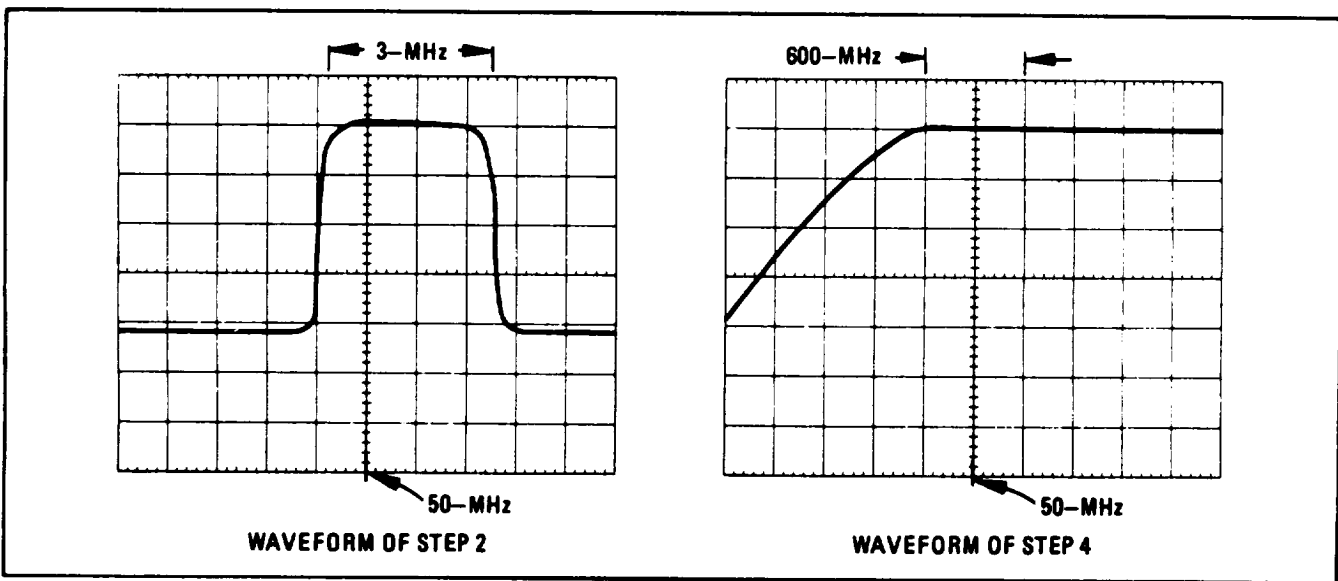

Figure 5-13. 50 MHz Bandpass Display for 10 MHz and 3 MHz Sweeps
POSITION	(see Figure 5-13)
2. Adjust Generator/Sweeper and oscilloscope to display a 10 MHz swept signal centered on 50 MHz. (See Figure 5-13.)
4. Select 3 MHz sweep width on the HP 8601A and observe oscilloscope display for a bandpass as shown in Figure 5-13. Repeat Step 3 as required to obtain desired bandpass.